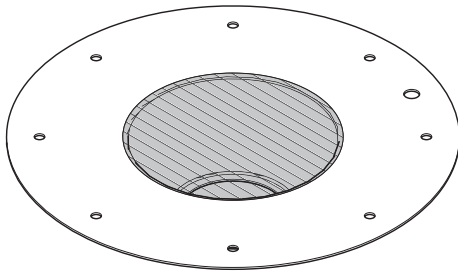

FIG. 1
3. Pack grease into follower plate cone (FIG. 1).